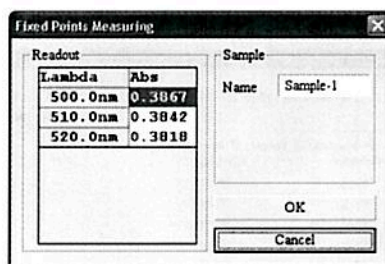

Fig. 4-4
- Place a sample in the sample compartment. Click **Start** or  to run a new measurement. The display will change to the following (Fig. 4-4). Key in the sample name in the **Name** box.